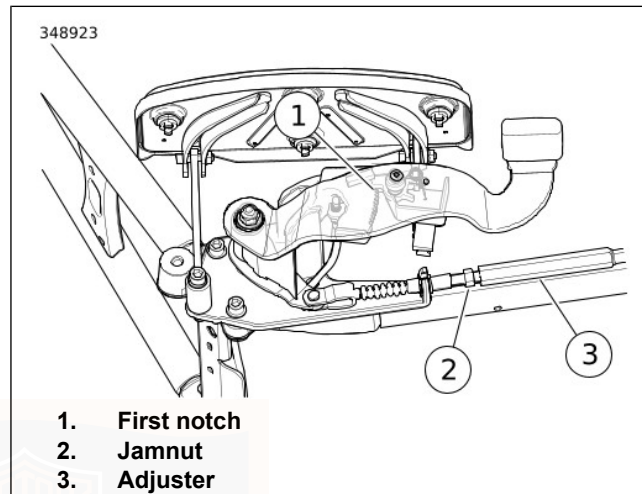

Figure 66. Parking Brake Adjustment
3. See Figure 66. Pull the boot back. Loosen jamnut.